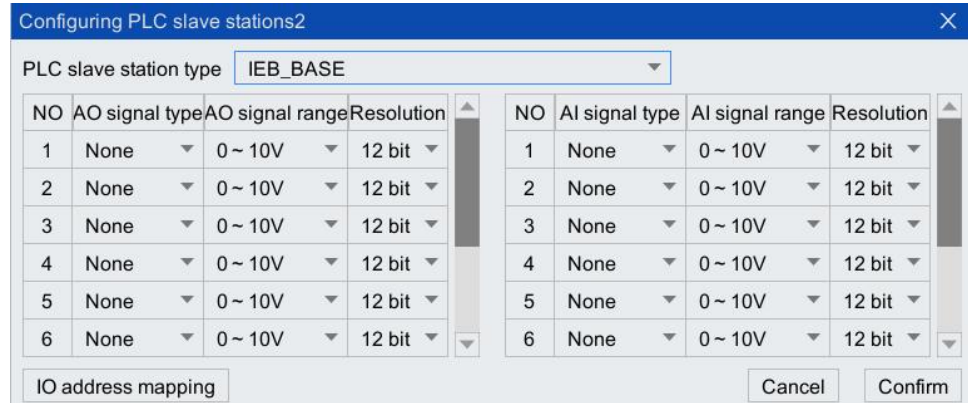
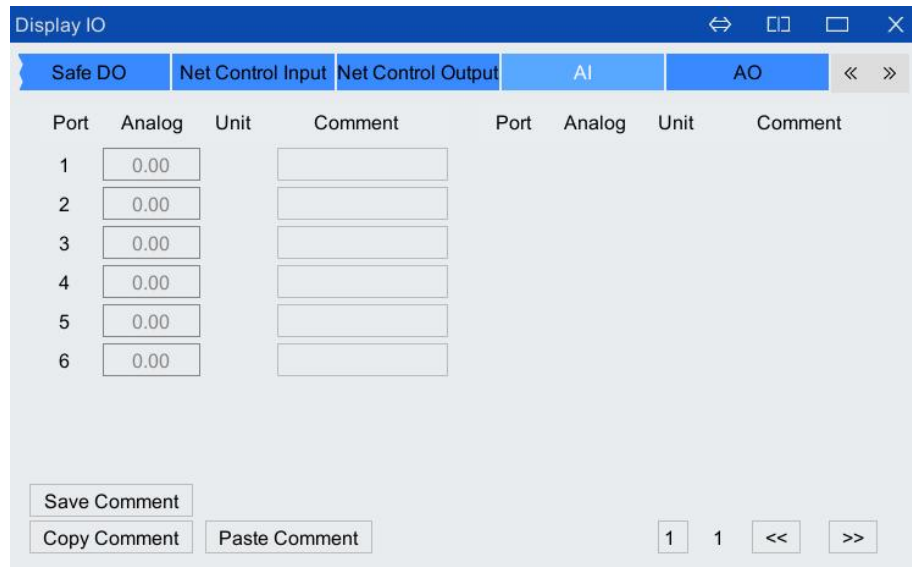
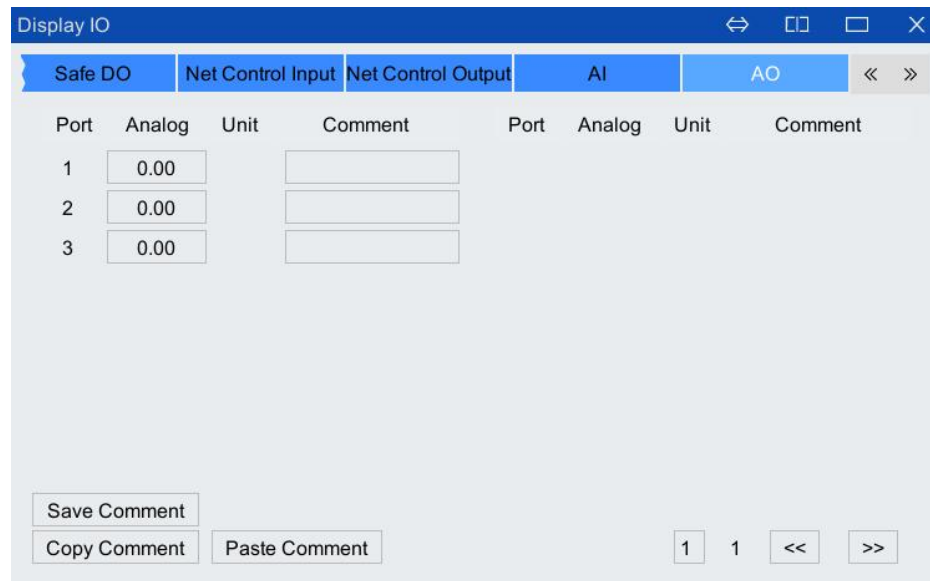

Figure 6-33 IEB\_BASE slave configuration
Figure 6-34 "AI" Real-time display of analog in the interface
Figure 6-35 Real-time display of analog quantity in "AO" interface
Step2. Configure IEB\_BASE slave station. Please refer to Chapter 8.3.4 for the configuration method. Please refer to Figure 6-33 for the completed configuration interface.
Step4. The "Port Number" 1-6 shown in Figure 6-34 corresponds to the "AI signal type" 1-6 in Figure 6-17; the "Port Number" 1-3 shown in Figure 6-35 corresponds to Figure 6-33. The "AO signal type" in 1-3 corresponds to 1-3. Please refer to Table 6-16 for the setting description in the "AI/AO" interface.